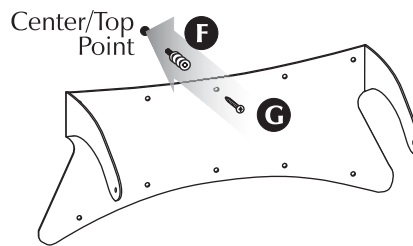

Figure 10. Drive a wall anchor through the top/center point and attach the stand.
- 7 Using a $\frac{1}{8}$ " bit, drill a pilot hole. If you happen to hit a stud during this step, DO NOT install the wall anchor and immediately proceed to the next step. If you do not hit a stud during this step, use a $\frac{1}{4}$ " bit to widen the pilot hole. Using a Phillips screwdriver install a wall anchors so it is flush with the wall (figure 10, step F).
- 8 Place the center piece of the Cinema i stand against the wall and align its uppermost center hole over the anchor installed in step 7. Using a 1" Phillips head screw, mount the Cinema i stand to the wall. Do not fully tighten the screw as you must first level the stand before marking the remaining holes (figure 10, step G).